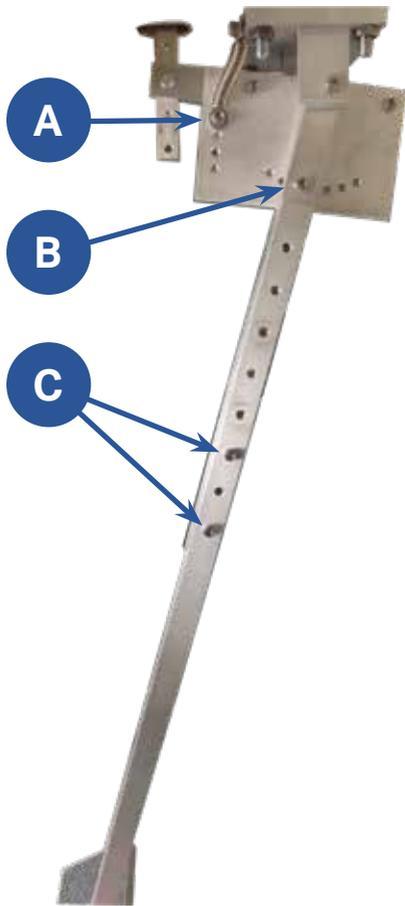

Figure 10.1. With the foot pedal system attached to the work table, attach the foot pedal leg to the arm of the manual foot pedal system.
With the foot pedal system attached to the work table, you can now attach the manual foot pedal leg to the arm of the manual foot pedal system, as shown in Figure 10.1 (C).